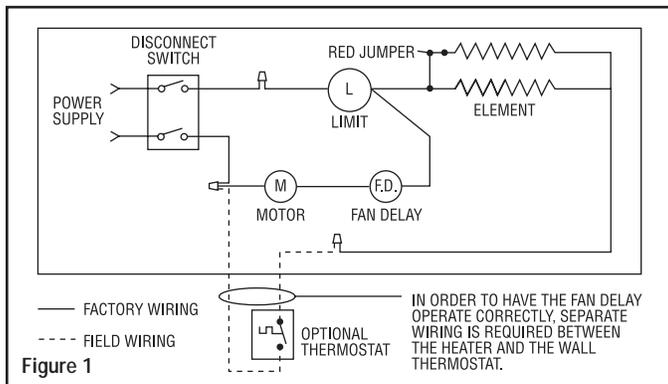

Figure 1
11. Connect the power supply lead wires to the blue colored lead wires on the disconnect switch using appropriately sized wire connectors. See Wiring Diagram, Figure 1.